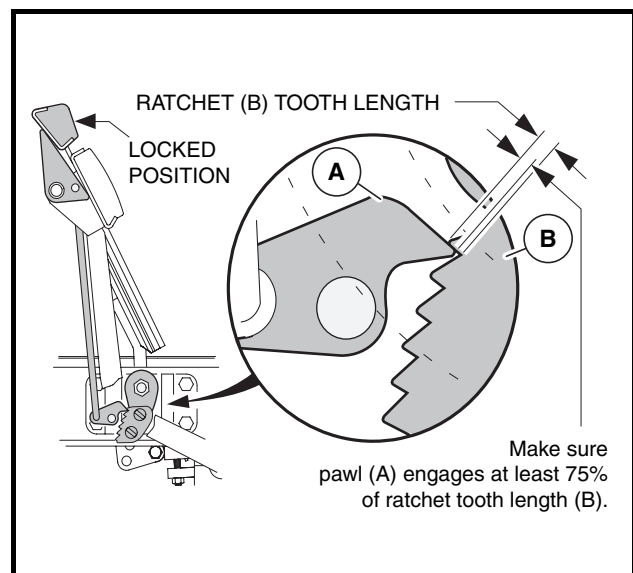

Figure 5-15 Ratchet/Pawl Tooth Engagement
- 4.4. With the park brake locked, make sure at least 75% of ratchet tooth length engages the pawl (Figure 5-15, Page 5-13). Tooth engagement should be between the two lines marked on the pawl.